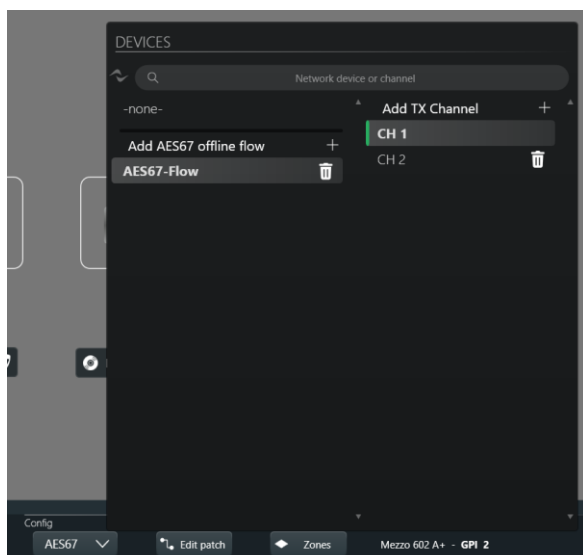

Figure 14 - Priority IN source
4.2 Priority Input selection (Figure 14)